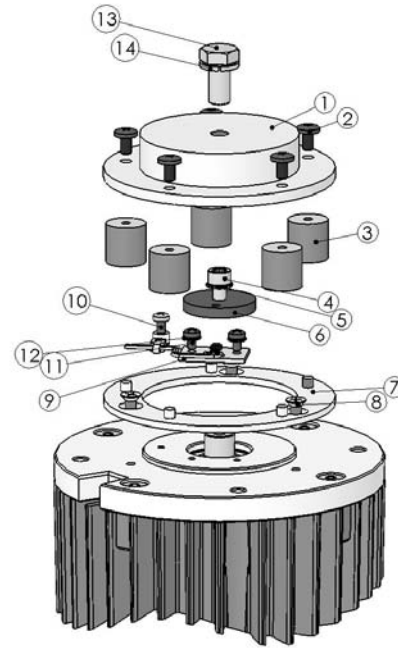

Fig. 13
5.6 Speed sensor and shock absorbers replacement (see fig.13)